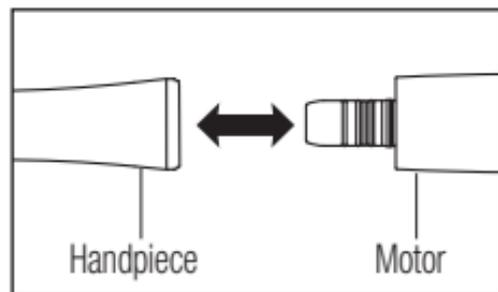

Fig. 5
- 1 Insert the handpiece directly into the motor (Fig.5).